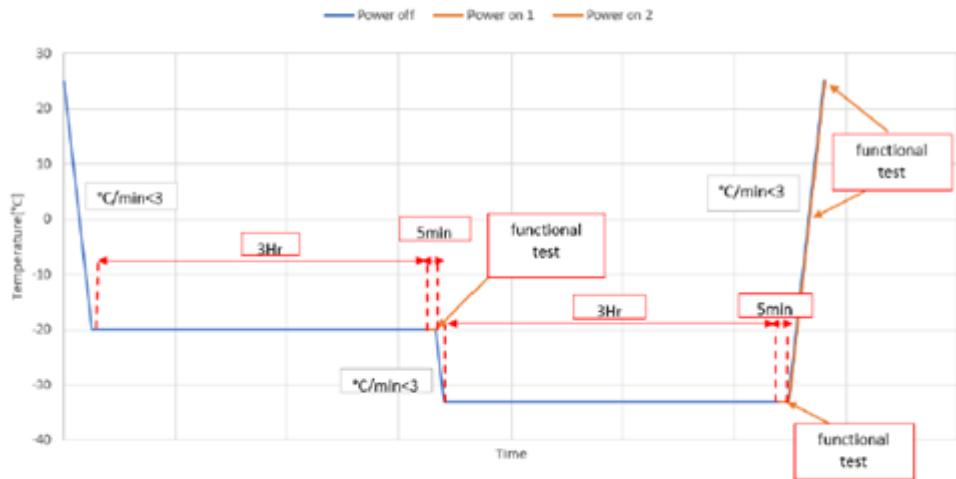

Figure 2: Low Temperature Operational Cycle
10. Lower the temperature to -20C for 3 hours as shown in Figure 2 below.
The minimum steady operational temperature is -20°C with design goal of -33°C according to Figure 2. The system shall be in operational mode during temperature rise time (-33°C÷25°C) and should be tested at 0°C and 25°C